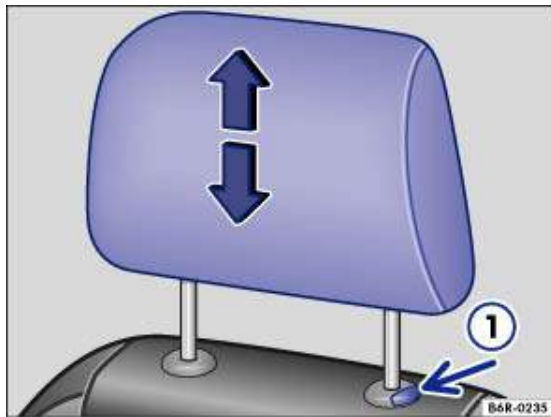

Fig. 43 Adjusting front head restraint
- Push the head restraint up in the direction of the arrow or push it down with the button pressed → Fig. 43  or → Fig. 44  → .
- Pull the head restraint out while pressing the ① → Fig. 43 or → Fig. 44 button.
- Press and hold the ① → Fig. 43 or → Fig. 44 button and push down the head restraint.